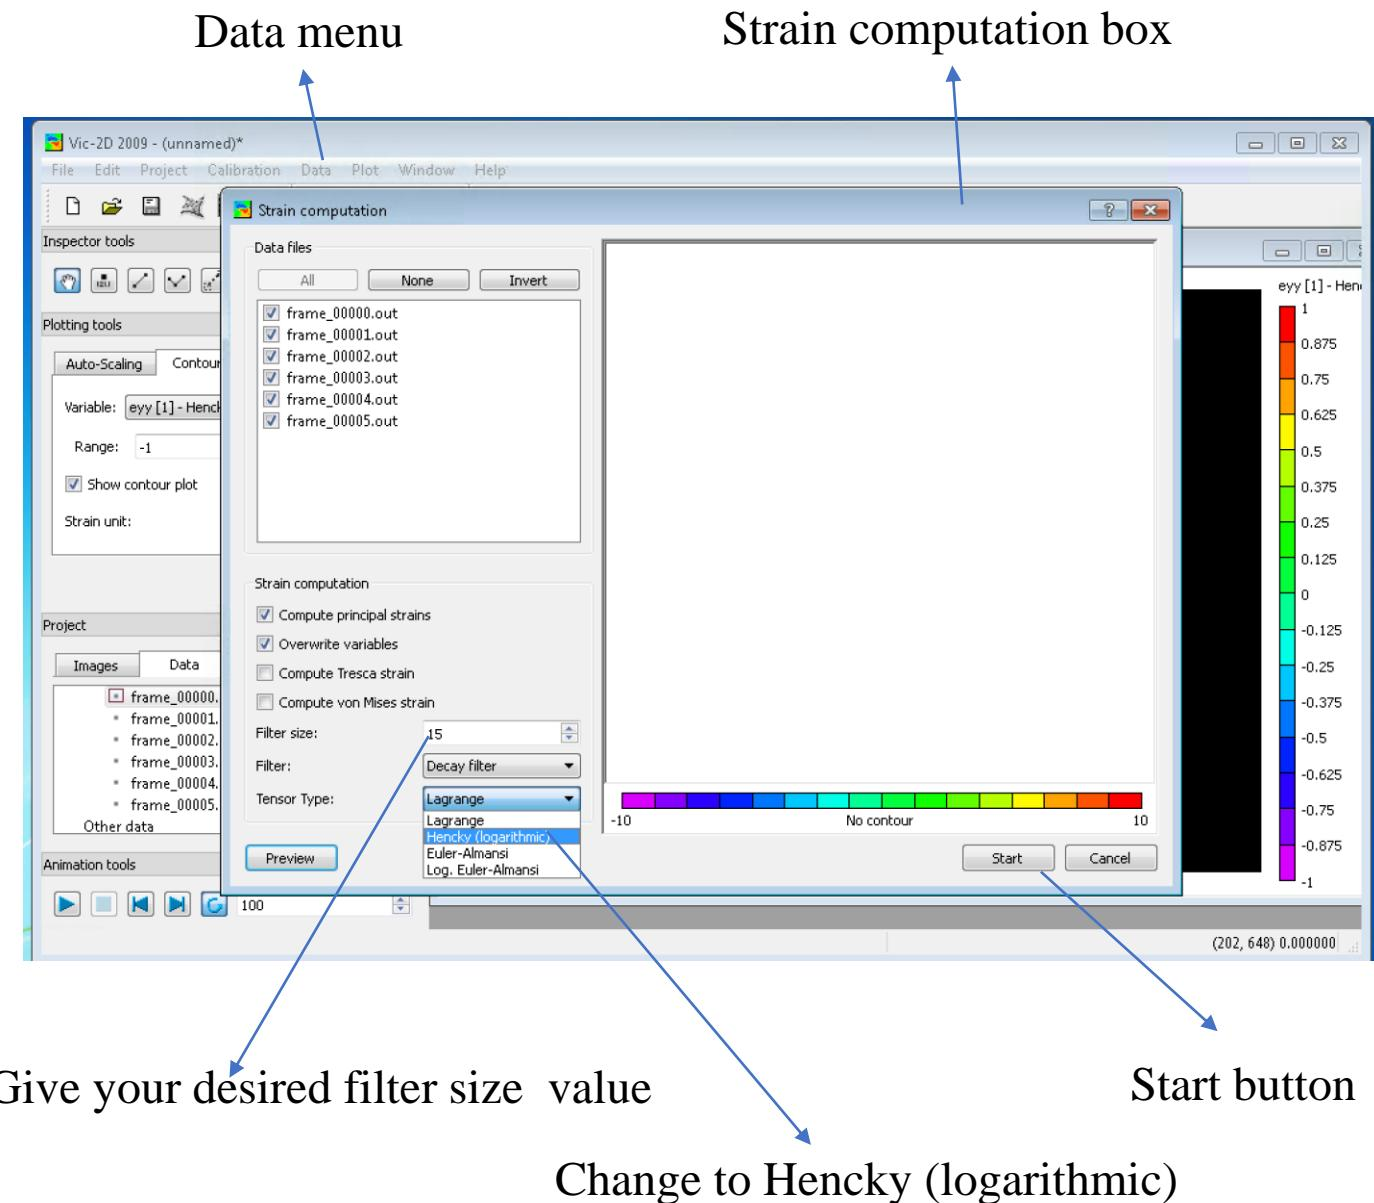

Figure 13
- To do this, first click on **Data** menu (see Figure 13), scroll to **Postprocessing options** and select **Calculate strain**. The **Strain Computation box** appears as shown in the Figure 13.